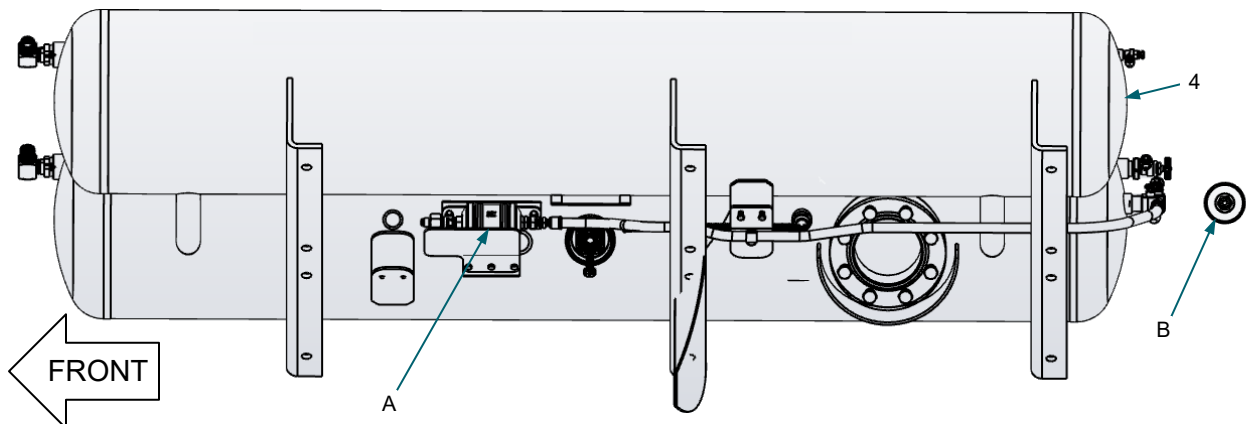

Figure 2:
- **Fill Filter** secured using a block clamp bolted to a plate affixed to chassis frame crossmember at rear of Fuel Tank. *Figure 2*
- **Inline Filter** secured using P-clamps bolted to a plate at bottom middle of Fuel Tank. *Figure 2*